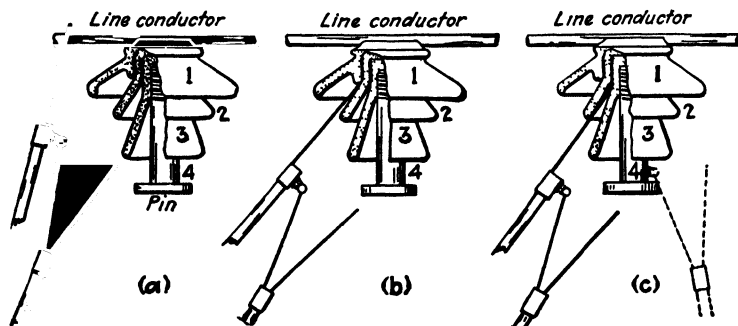

FIG. 21-7. First step or feeling process in testing a multiple-layer pin insulator. (Courtesy Johnson Mfg. Co.)
**To Feel Out an Insulator.** Touch the feeling point of the feeling stick to the line conductor (Fig. 21-7). While maintaining this contact, touch the ball of the buzz stick to the metal cuff on the end of the feeling stick and draw it slowly away from the cuff. A distinct buzzing sound will be produced, which in the case of a 66,000-volt line will be audible until the ball is 1 in. or more away. Repeat the operation with the point of the feeling stick resting firmly on the cement between porcelain parts 1 and 2 (Fig. 21-7). The sound will not follow the ball so far as when the feeling stick was in contact with the line conductor, if porcelain part 1 is perfect. When porcelain part 1 has become defective, the
Repeat the operation by touching the feeling point to the cement between parts 2 and 3 (Fig. 21-7). If part 2 is perfect, the sound given off will be less than the sound given off between parts 1 and 2. The nearer to equality the sounds approach, the more defective part 2 is. When part 2 is totally defective, the sounds from the cement on each side of the part will in all cases be equal. This operation is repeated for each unit part of the insulator, and the difference (the greater the difference, the nearer perfect the porcelain part) in the sounds given off by the cement on each side of any part indicates the degree of defectiveness of the part between the cement sections.
When the last part is reached, which, in the case of the insulator shown in Fig. 21-7, is part 3, the feeling operation is made on the cement on one side and the pin on the other side.